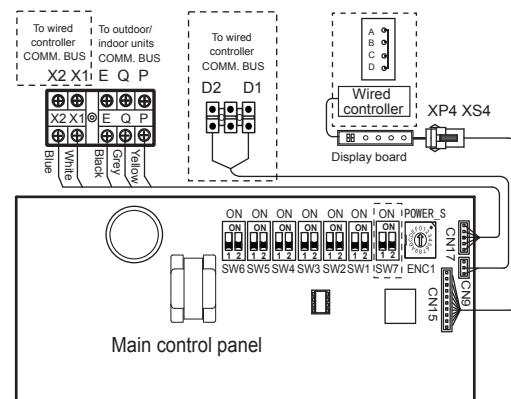

Figure 6.10
- The X1/X2, D1/D2 terminals on the sides of the main control board and the unidirectional communications terminal (display board) are for different types of wired controllers (see Figures 6.10 and 6.11).